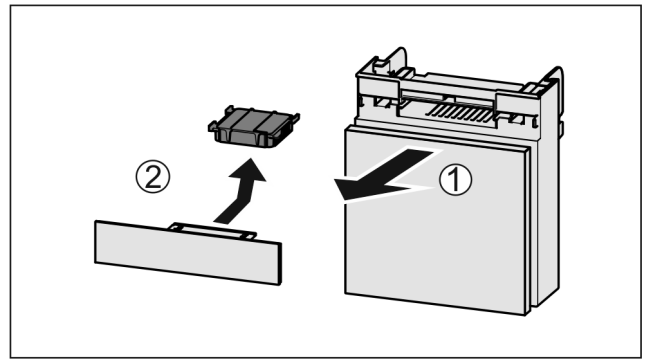

Fig. 138
- ▶ Pull out the compartment Fig. 138 (1).
- ▶ Remove the carbon filter Fig. 138 (2).